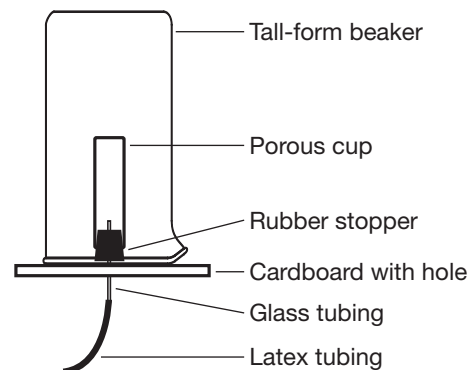

Figure 2.
7. Place the glass tubing in the size 7 stopper through the hold in the cardboard. Ensure the large side of the stopper is toward the cardboard (see Figure 2)